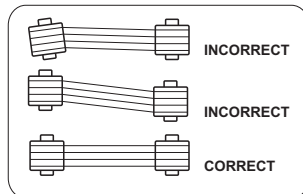

FIGURE 19
- Verify the tension of the belt (Figure 18) and the alignment (Figure 19) for models CSV 15 and CSV 20. The tension at the middle point yields 3/8" through 1/2" on manual force being or weight of 4,0 kg (1,8 lbs) applied at the mid-point. In order to check the deflection, remove the belt cover. After the inspection reassemble the protector, fixing the screws as per Table 4.
* Attention: See item 9, Chapter 5 - Safety Instruction.